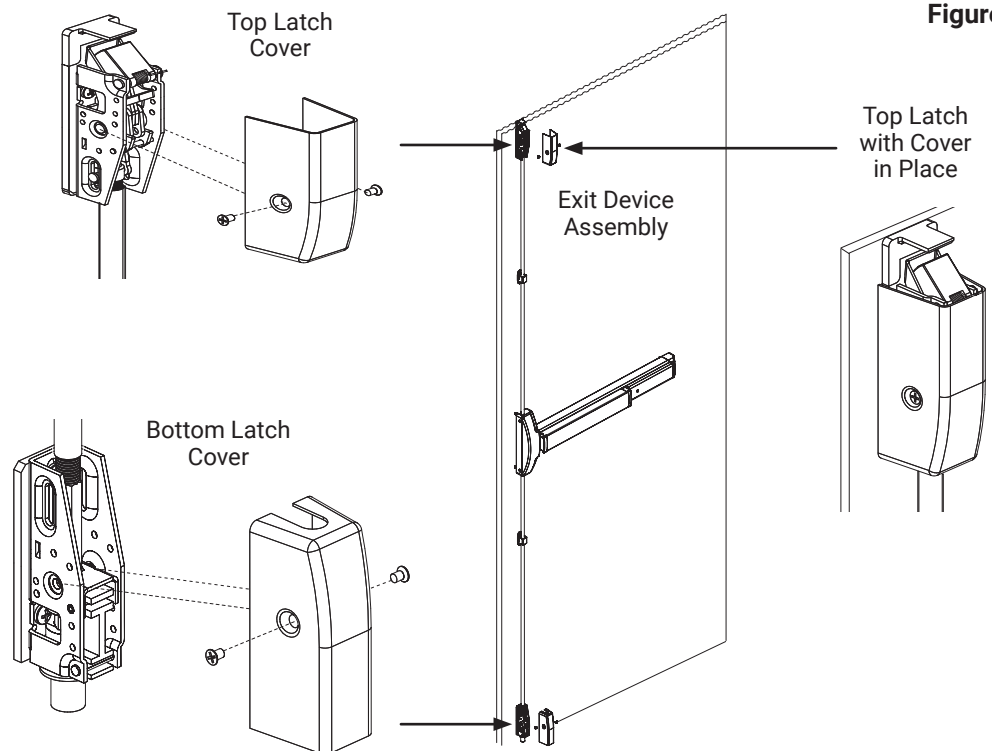

Figure 27
1. Install top and bottom latch covers as shown with four (4) #8x32 x 1/4" (6.4mm) PFHMS. See **Figure 27**.